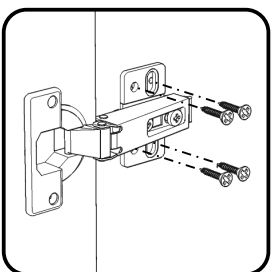

Figure 6
Attach Doors (L) to unit with Wood Screws for Hinge. (See Figure 6)